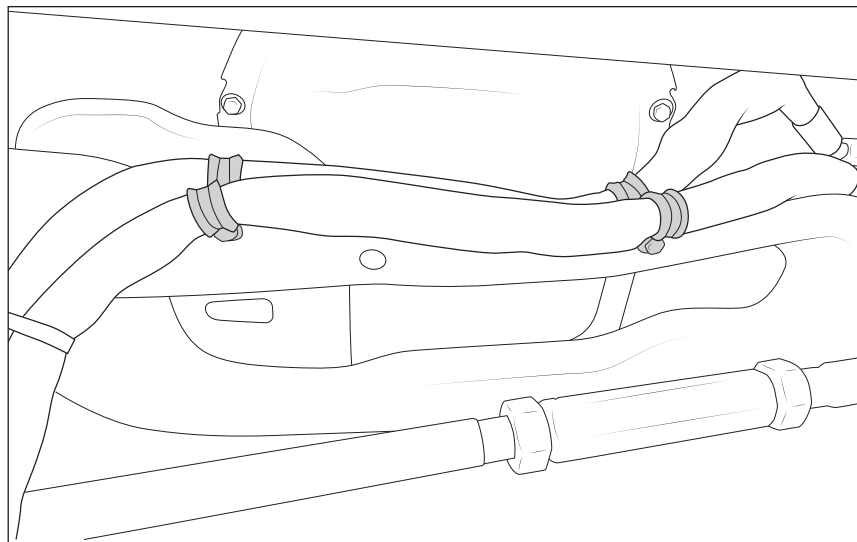

Figure 9
2. Drill two 1/4" holes in the cross member (fig. 9)
3. Hoses will be routed along the cross member and secured with p-clips (fig. 9). Use 1/4" bolts, washers, and nuts to fasten the p-clips to the cross member. The top hose should be attached to the top of the cross member and the bottom hose attached to the bottom of the cross member. NOTE: When mounting p-clips the axle should be at full droop. The ram should be rotated into position by taking up slack in the hoses. The fittings should be pulled slightly upward, but when the vehicle is on the ground the fittings should never contact the tie rod link.